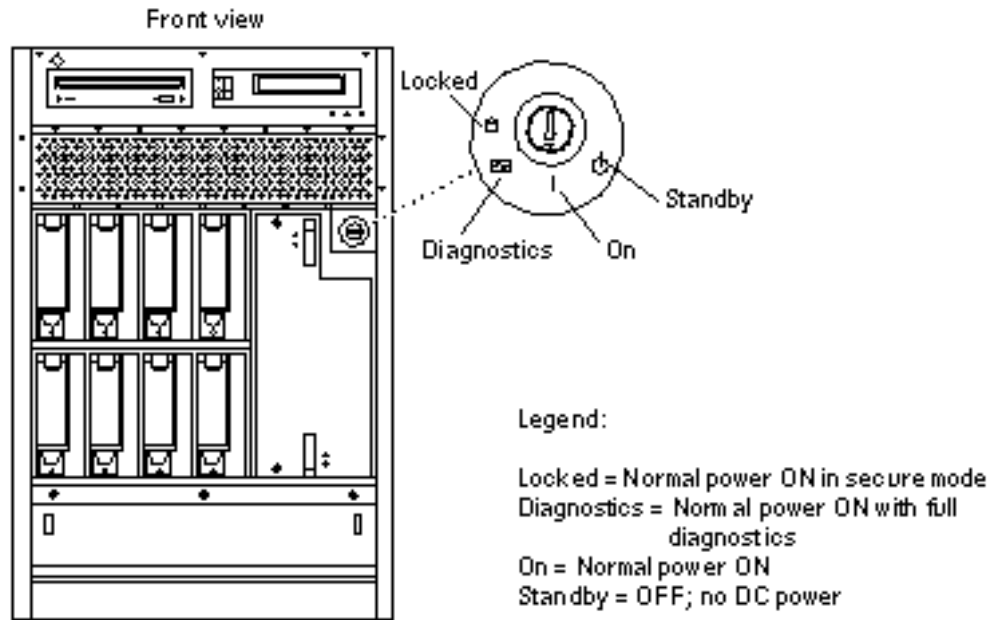

Figure 3-1 Key Switch Positions
- b. **Turn the system key switch to the Standby position. See Figure 3-1.**
5. **Turn the key switch to the On position. See Figure 3-1.**
6. **Locate the system key switch in the upper right corner, and turn the key switch to the Standby position (fully counterclockwise). See Figure 3-1.**